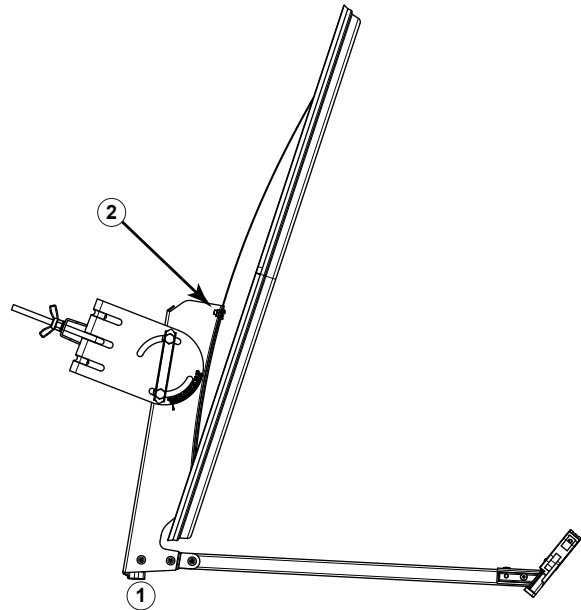

Fig. 4: Installing the reflector
1. Fold down the feed arm and screw it on using the star knob screw ① (Fig. 4).
2. Screw the reflector to the support arm using 4 or 6 screws ② (Fig. 4).
1. Loosen the winged nuts and bring the threaded U-bolt and threaded clamp into installation position (Fig. 4).